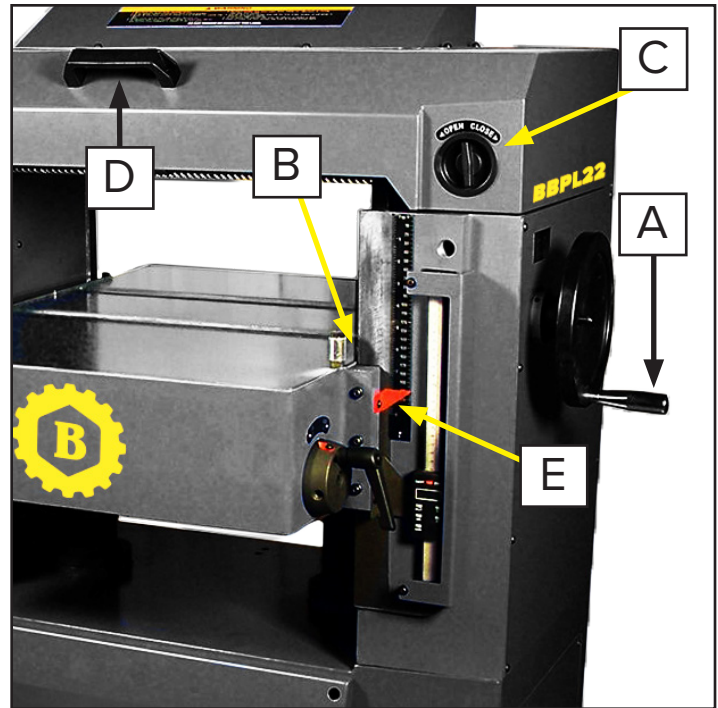

Figure 8: Opening the hood and the table
To raise the table, turn the handwheel (A, Figure 8) clockwise. One full revolution of the handwheel raises the table by 1/16 inch.
The socket head cap screw (B, Figure 8) serves as a stop, preventing the table from moving into the cutting and feeding assembly.
To open the hood, turn the locks (C, Figure 8) clockwise. The hood will open automatically. Use the handle (D, Figure 8) to close the hood.
2. Use the handwheel (A, Figure 8) to raise the table until the in-feed roller is approximately 1/16 inch above the calibrating board.
7. Adjust the pointer (E, Figure 8) to match the measured thickness by loosening the screw that holds it in place and reposition the pointer.